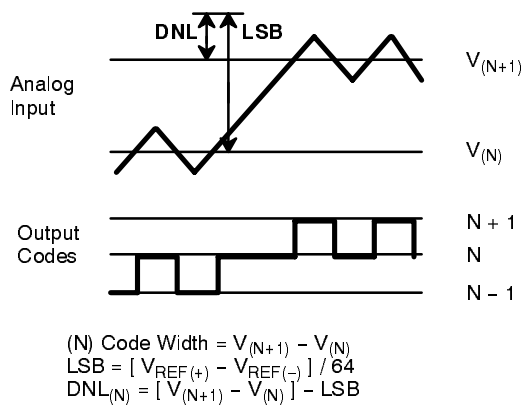
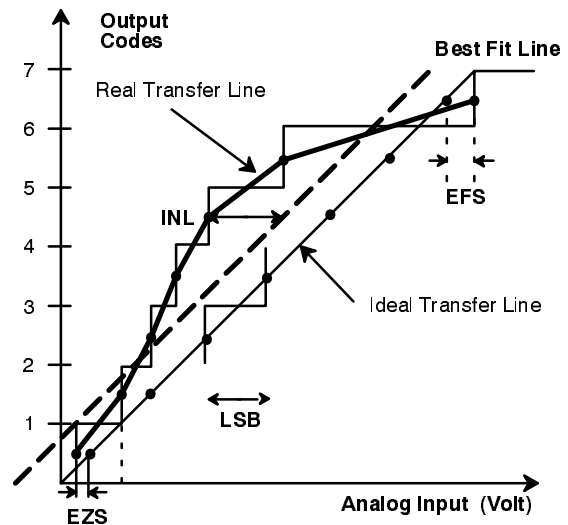

Figure 3. DNL Measurement
Figure 4. INL Error Calculation
- ¹ Tester measures code transitions by dithering the voltage of the analog input (V_{IN}). The difference between the measured and the ideal code width (V_{REF}/64) is the DNL error (Figure 3). The INL error is the maximum distance (in LSBs) from the Best Fit Line to any transition voltage (Figure 4). Accuracy is a function of the sampling rate (F_S).